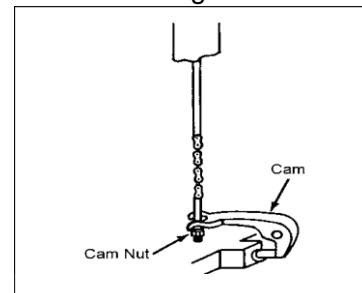

Fig. 2
2. Turn the cam nut while pumping the handle, Figure 2.